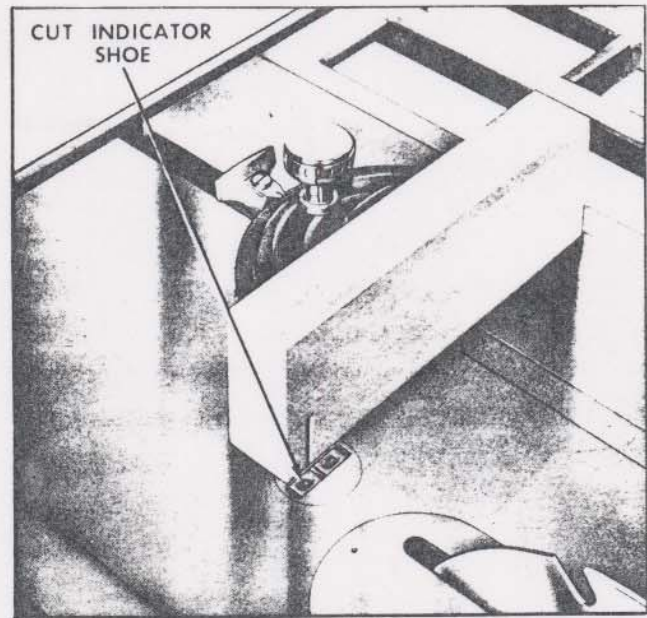

FIGURE 6
3. Withdraw from blade until saw slot and cut indicator shoes, No. 38, are approximately in line, as shown in Fig. 6.